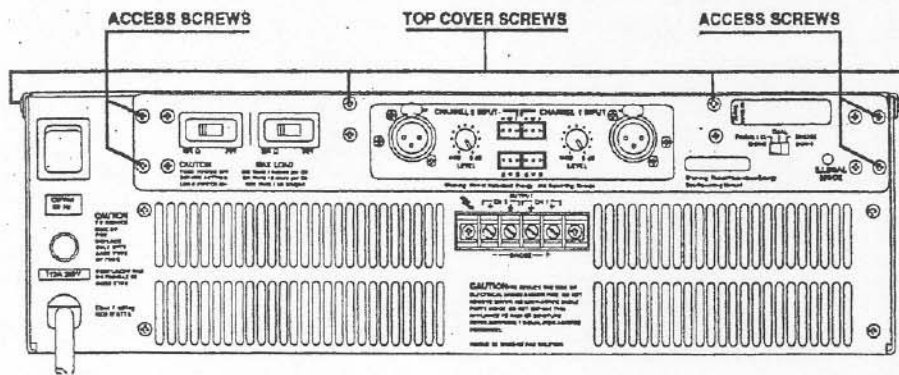
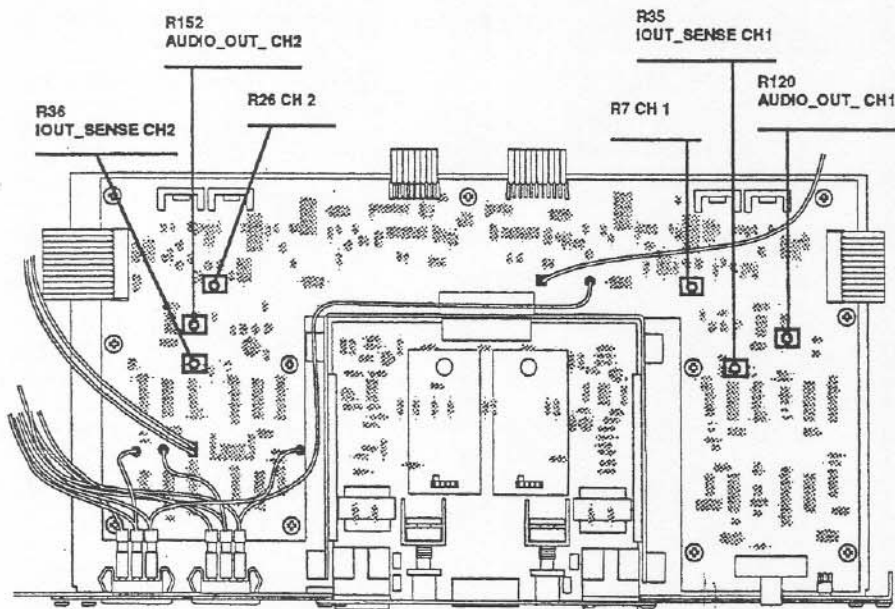

Figure 13 Access screws
Figure 14 DC bias and IT calibration trim pot locations
The following adjustments are best performed after the amplifier has warmed up. First remove the top cover by the 6 access screws along the front and back (Figure 13). Refer to figure 14 for the following procedure.
The following adjustments are made on the main power amplifier board. This board can be exposed by removing the four access screws at the four corners on the rear panel and raising the driver board assembly (Figure 13). Each channel is a grounded bridge configuration. Since a grounded bridge consists of 2 amplifier stages for each output, there are 2 independent idle adjustments for each channel. One is for the high side amplifier that drives the positive output terminal and the other is for the low side amplifier which sinks or sources the return path (ground terminal). Refer to Figure 15 for the following procedures.
7. While delivering this voltage to the 4.0  $\Omega$  load, adjust R35 (R36/ch2) of the driver pcb for 4.50 Vdc, measured on pin 7 of U3 (pin 7, U9/ch2). See figure 14 for trim pot locations.
11. While delivering this voltage to the unloaded output of the amplifier, adjust R120 (R152/ch2) of the driver pcb for .775 Vrms (AC) measured on pin 1 of U2 (pin1, U8/ch2). See figure 14 for trim pot locations.